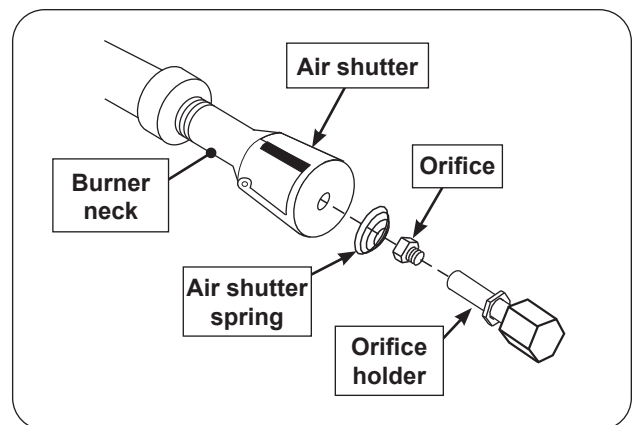

Fig. 46-3 Burner removal diagram
4. To re-install, position the air shutter spring and air shutter over the orifice holder fitting, between the burner and the heat shield, in the order and position shown in Fig. 46-3. Do for both burner necks.